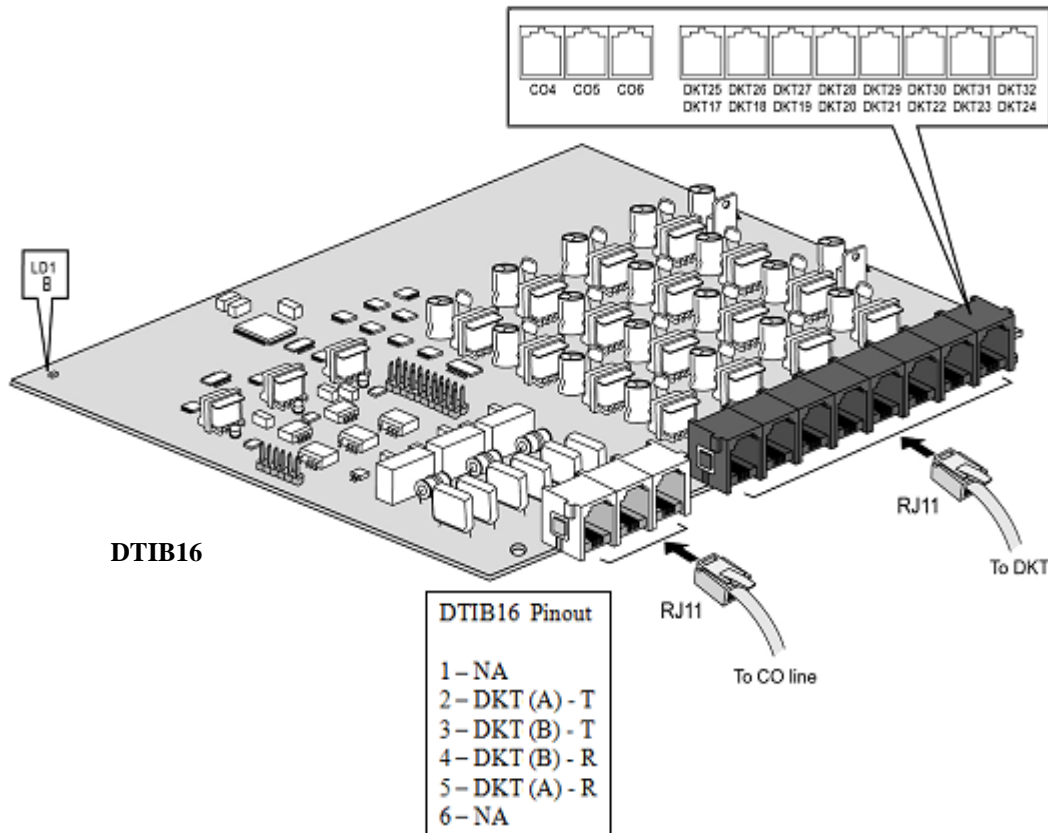

Figure 4-7 Installation of the DTIB16 Board
- Notice the board-specific pinouts shown in Figure 4-7.